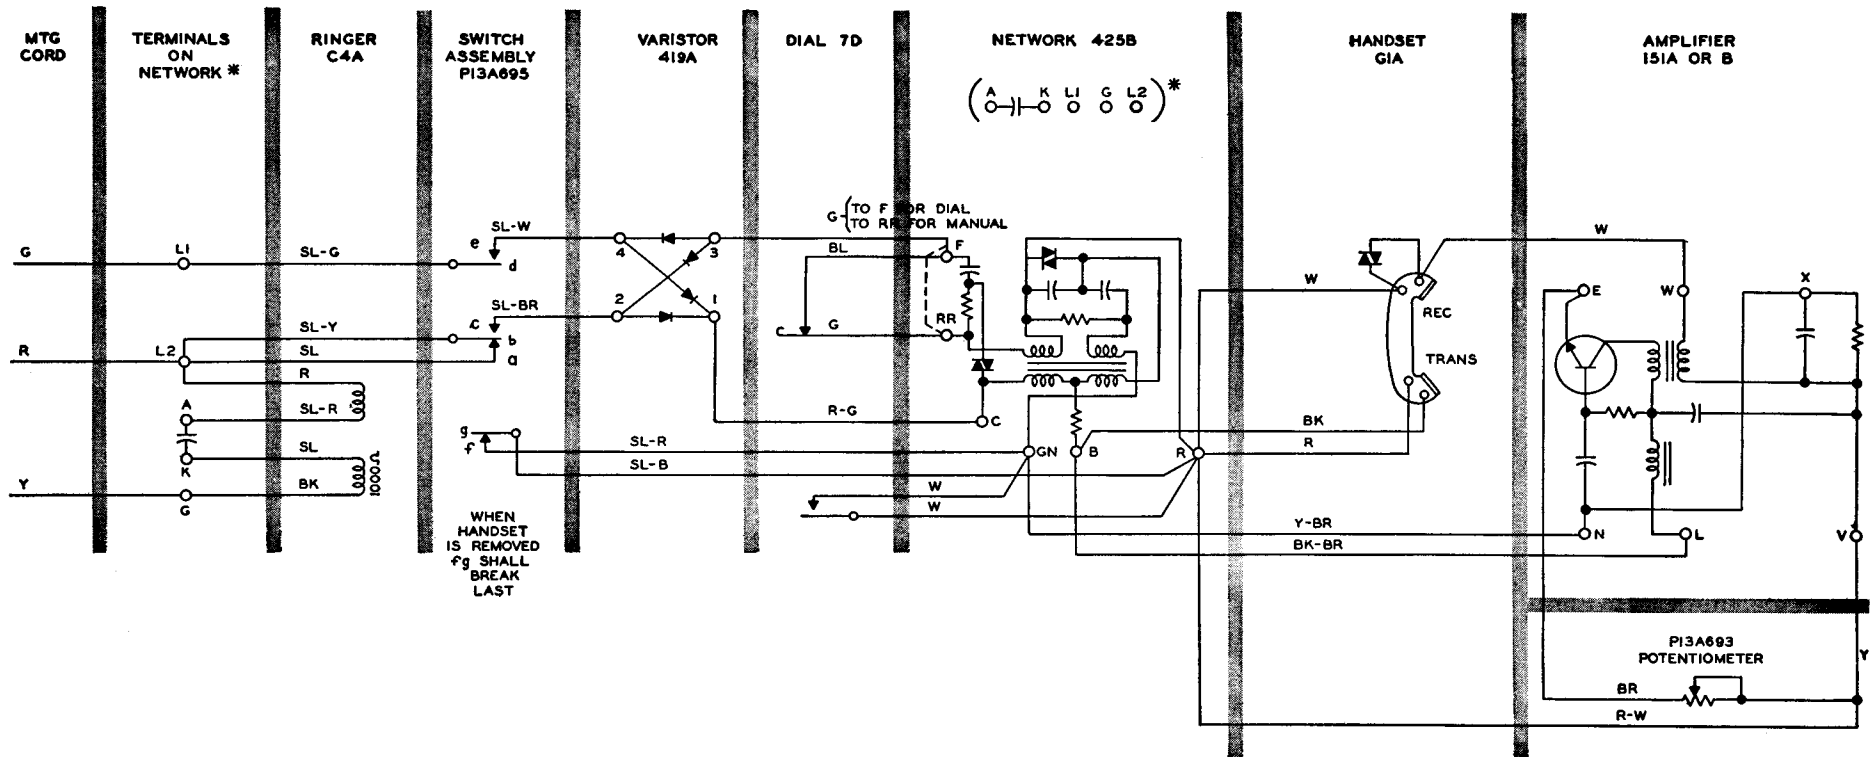

Fig. 6—532-type Telephone Set—Connections
6.05 In the 532- and 533-type telephone sets, the input to the amplifier is connected in place of the receiver (network terminals R and G) and the receiver is connected across the output of the amplifier (network terminal R, amplifier terminal W). The operating current for the amplifier is obtained from the central office line by connecting the amplifier L and V terminals across the network terminals R and B. (See Figs. 6 and 7.) Moving the potentiometer knob clockwise should increase receiver amplification.